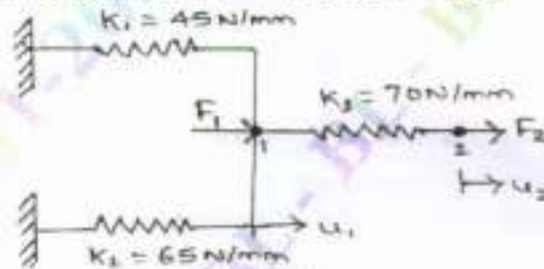

Fig Q1(b)
- For the spring system shown in Fig Q1(b). Using principle of minimum potential energy, determine the Nodal displacement take  $F_1 = 70\text{N}$  and  $F_2 = 105\text{N}$